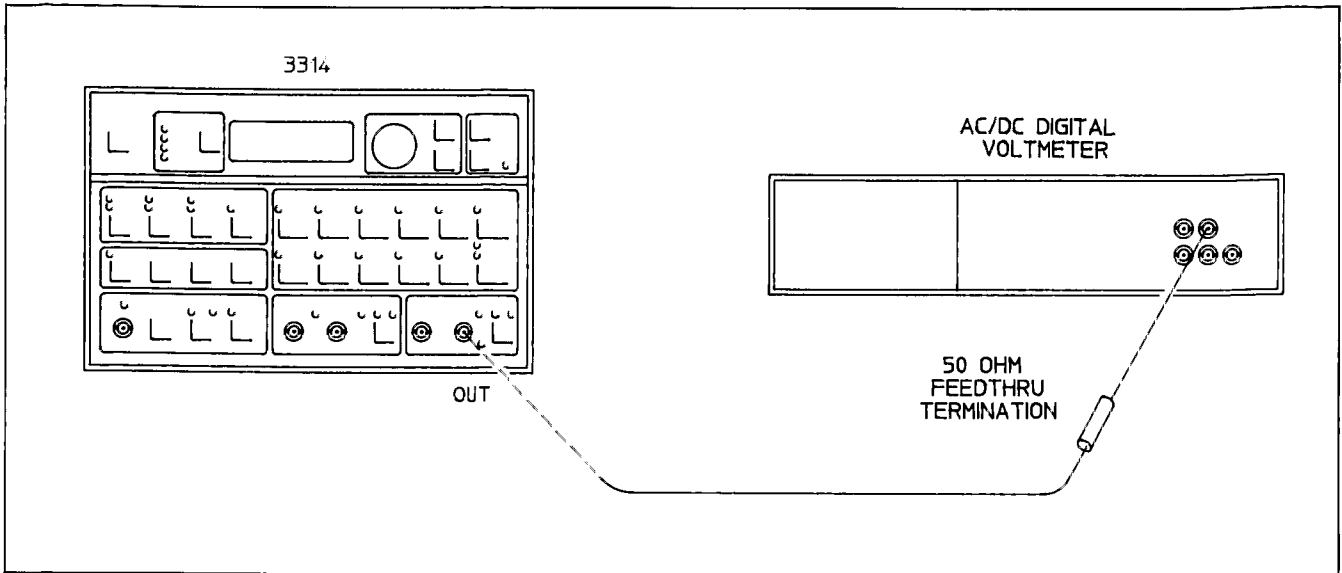

Figure 5-7. DC Offset Adjustment
- D. Connect the 3314A to the voltmeter as shown in Figure 5-7